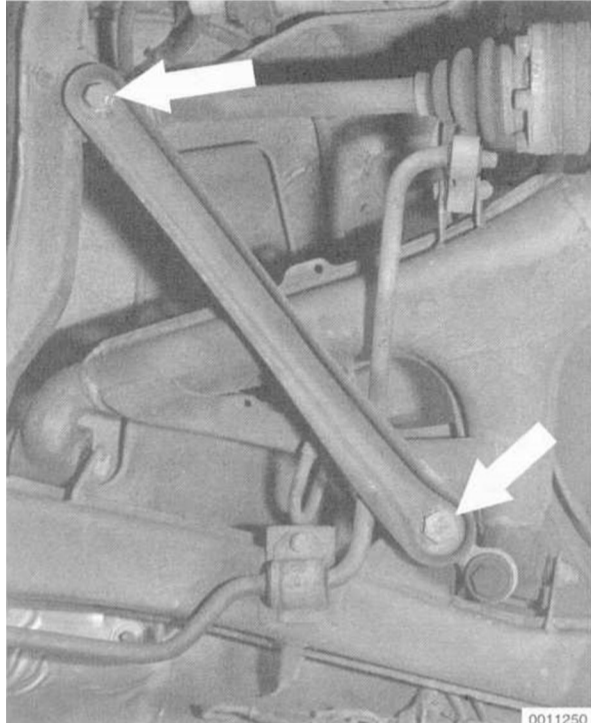

Fig. 16. Diagonal support mounting bolts (**arrows**).
11. If removing the right side trailing arm, unbolt the diagonal support arm from the connecting link, then loosen the other end of the arm and swing it out of the way. See Fig. 16.